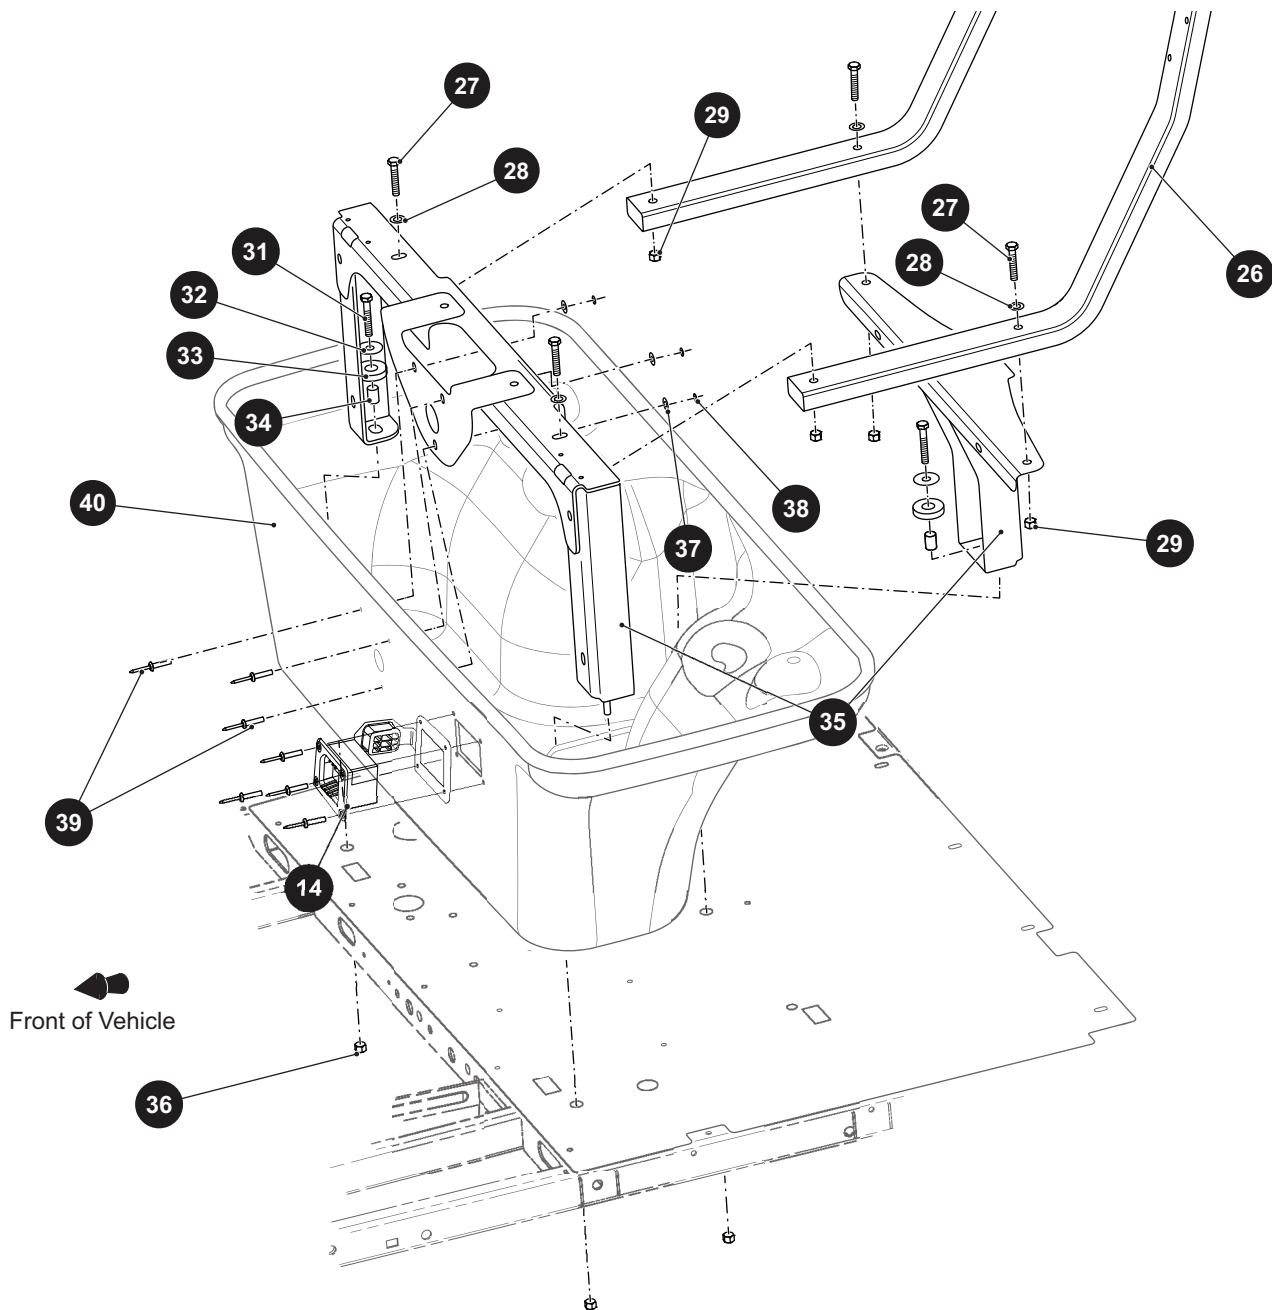

Fig. 11 Front Seat Pod and Frame
3. Disconnect the wiring from the charging port (14).
5. Drill out the rivets (39) securing the seat frame to the front of the seat pod and discard the washers (37, 38) (Ref Fig. 11).
6. Remove the lock nuts (29), bolts (27), and washers (28) securing the seat back supports (26) to the seat frame.
8. Remove the lock nuts (36), spacers (33, 34) and washers (32) securing the seat frame (35) and seat pod (40) to the frame.